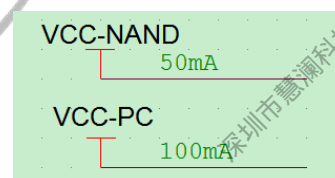

Figure 2-24 The Operating Current and Voltage Label of Flash Power
- Must mark the operating voltage and the maximum operating current about NAND/eMMC in the schematic diagram to facilitate PCB layout design. As shown in Figure 2-24.